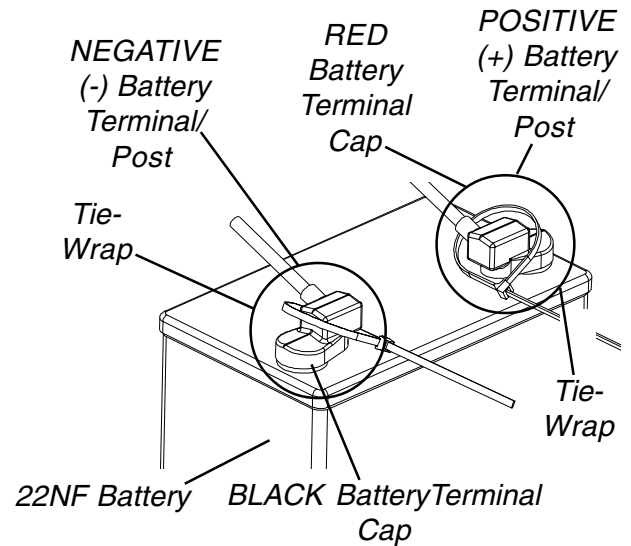

FIGURE 3 - CONNECTING BATTERY CABLES - DIRECT MOUNT METHOD
2. Connect battery cable(s) to battery(ies) terminal(s)/post(s) as follows (DETAIL "A" or DETAIL "B" of FIGURE 3, depending on battery type):
3. Secure the battery cable(s)/ring terminal(s) to the battery terminal(s)/post(s), BLACK to NEGATIVE (-) and RED to POSITIVE (+), with the provided 1/4-20 x 7/8-inch hex flange screw and hex flange locknut. Securely tighten. (DETAIL "A" or DETAIL "B" of FIGURE 3, depending on battery type).
5. Slide terminal cap(s) down battery cable(s) and onto battery clamps (FIGURE 3).
6. Secure each terminal cap in place with a tie-wrap (Use tie-wraps 11-1/2-inches long) (FIGURE 3).